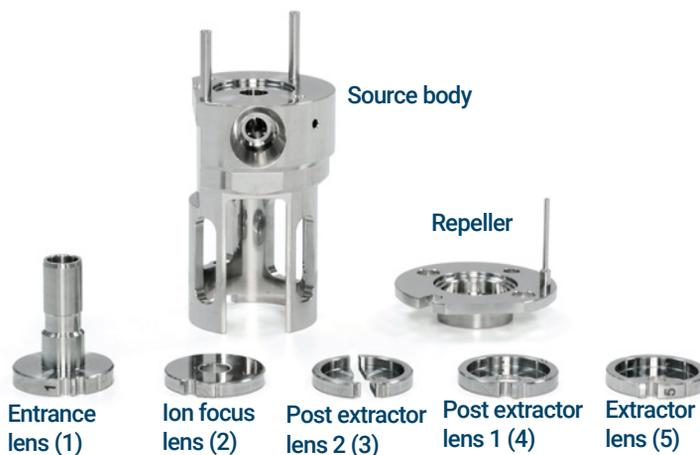

Figure 56. EI HES 2.0 parts to be cleaned
- 2 Collect the following parts to be cleaned if you are cleaning an EI HES 2.0: (See **Figure 56** on page 185.)
- Extractor lens (5)
- Post extractor lens 1 (4)
- Split extractor lens (3)
- Ion focus lens (2)
- Extended entrance lens (1)